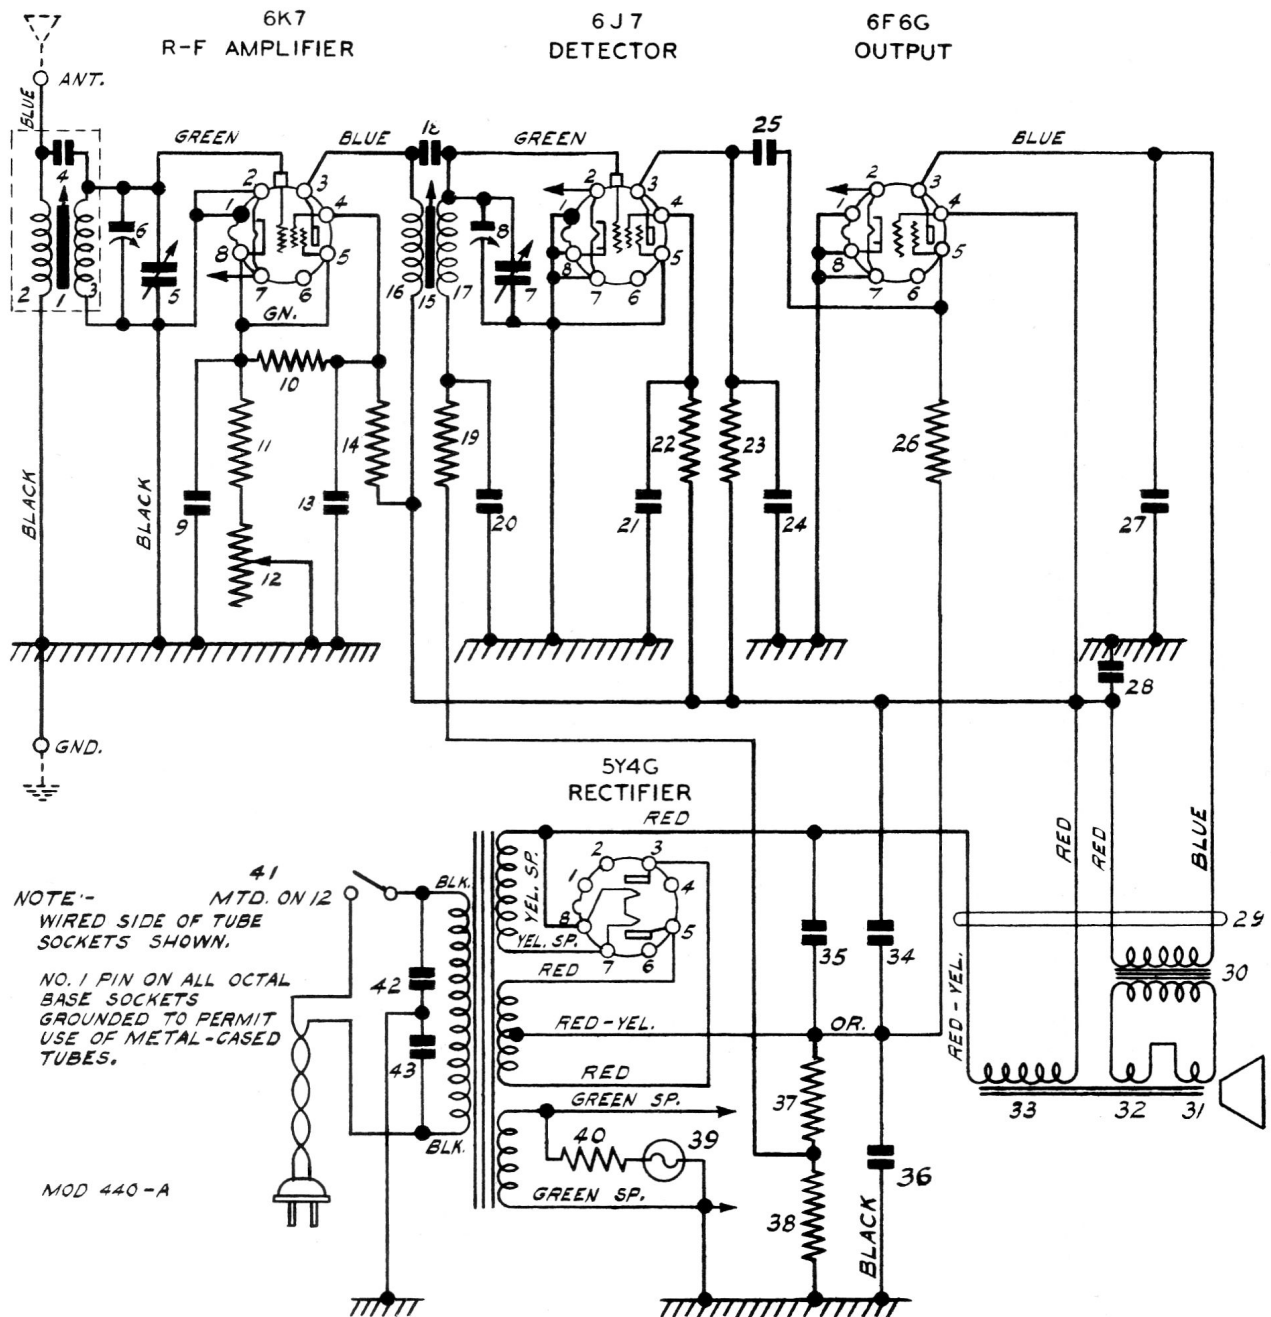

Figure 1. Schematic Circuit Diagram.—Model 440 A
CIRCUIT:—(Refer Fig. 1 Schematic Diagram). This T.R.F. circuit uses iron-cored antenna and r.f. transformers. The adjustable cores are items 1 and 15 (See "Realigning Details"). The antenna and r.f. sections of the ganged tuning capacitor are items 5 and 7 with